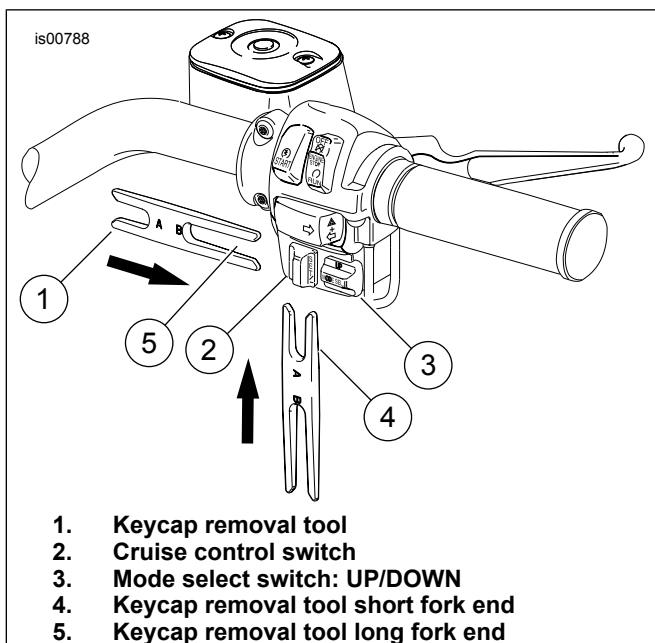

Figure 6. Right Handlebar Lower Switch Housing Keycap Removal
5. See Figure 6. Use the short end (4) of the keycap removal tool (1) to remove the cruise control (RES/SET) keycap (2). Push up under the keycap.